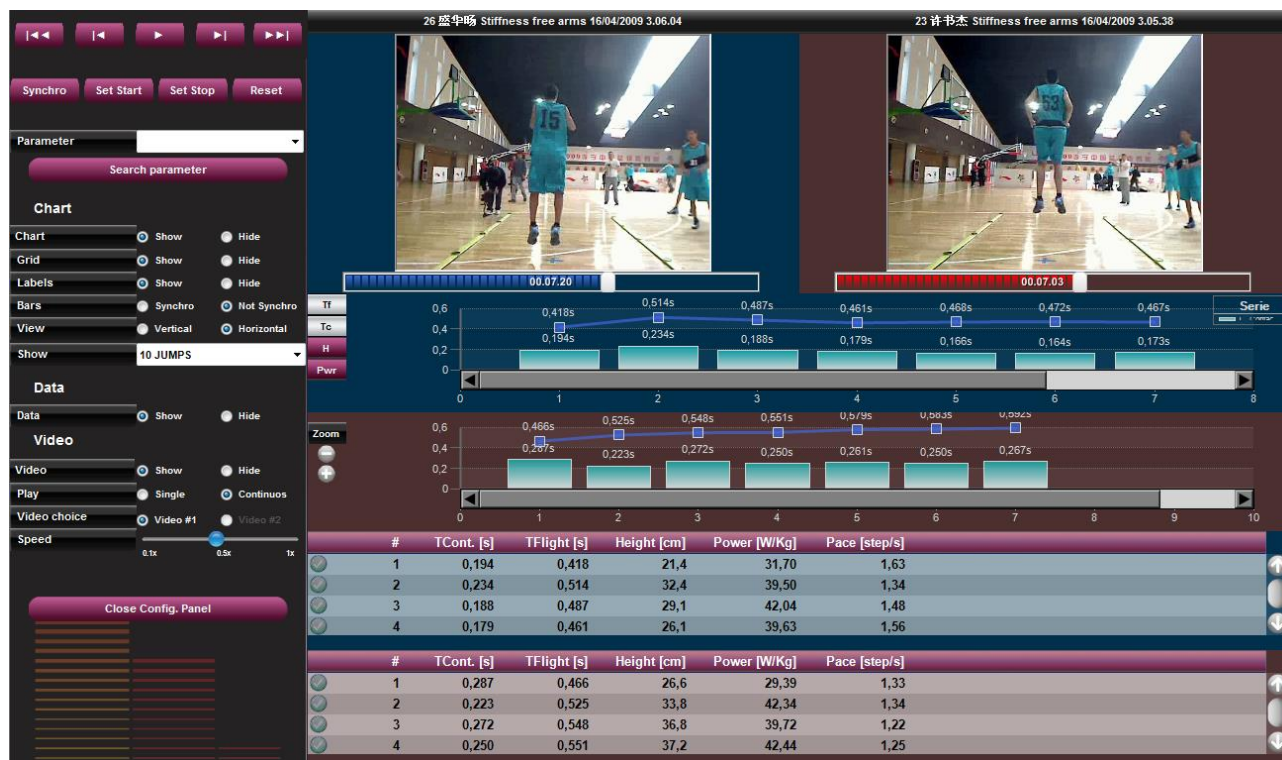

Figure 84 – Compare
- **View:** data can be viewed horizontally (as in Figure 84 – Compare) or vertically. In the latter case the numerical values are scrolled horizontally.